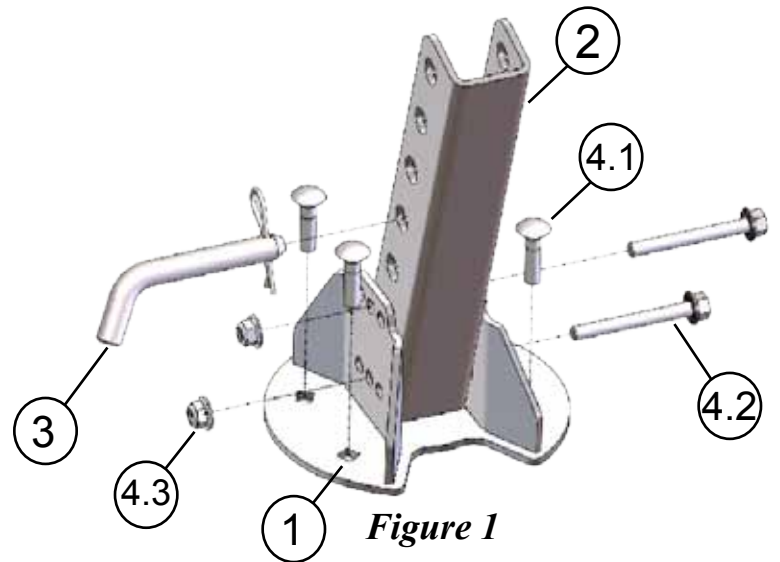

Figure 1
2. Mount Plow Lever Lift Bracket in location (A) using the four longer 3/8" carriage bolts (4.1) supplied in the hardware kit as shown in Figure 1 & 2.
4. Mount plow lever lift channel in location using the two 3/8" bolts (4.2) supplied in the hardware kit as shown in Figure 1.